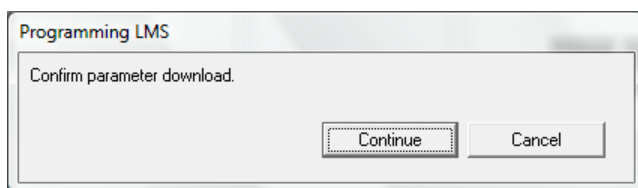

Figure 3. Confirm parameter download.
7. Click **Continue** to confirm parameter download, see Figure 3.
7. A message box is shown to remind the user to turn on the **OUTPUT POWER** on the LPC, see Figure 3.